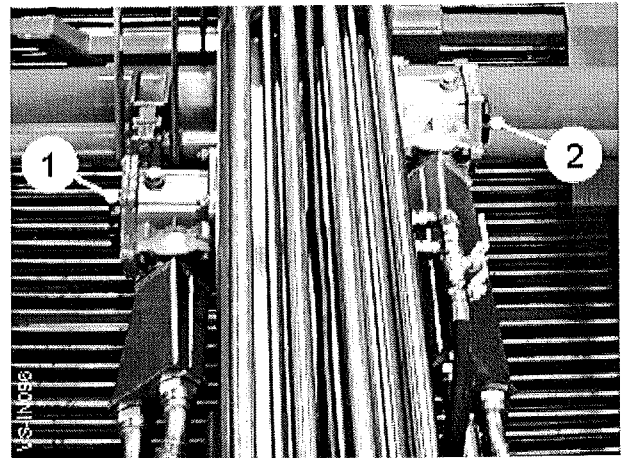

Fig 31
When the machine is in use, the suction filter knobs (item 1 & 2, fig 31) must be wound fully in clockwise at all times.